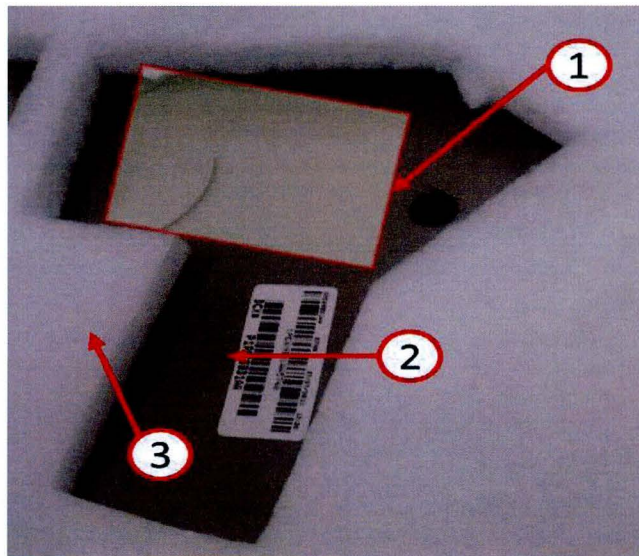

Fig. 7 Door Panel Preparation
7. Clean the surface area (1) of both door trim panels to be bonded with isopropyl alcohol (Fig. 7).
8. Once the alcohol has evaporated apply 3M 4298 adhesion promoter or equivalent to the surface area (1) where the dual lock adhesive backer will bond (Fig. 7).